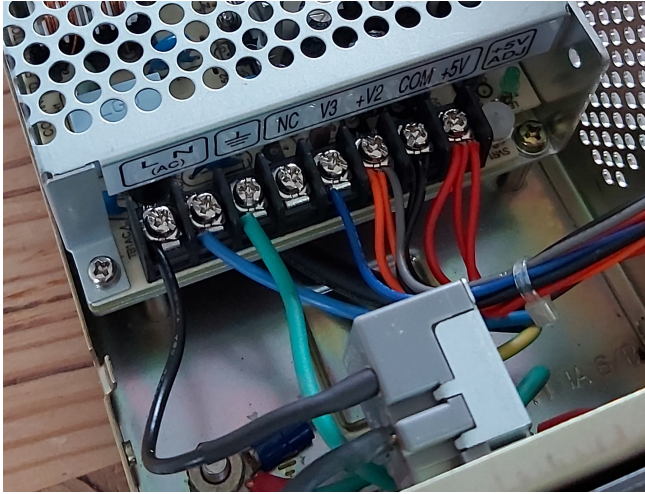

Figure 2.4: Connect all wires to the relevant PSU terminals.
4. Connect the wires leading from the NABU motherboard, as shown in Table 2 (above) and Figure 2.4.